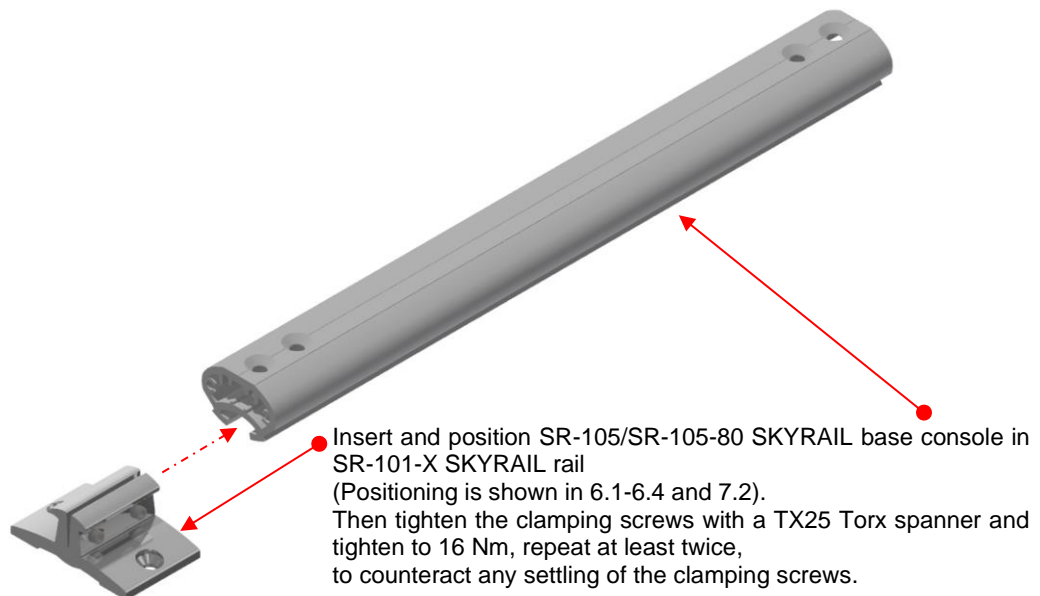

Fig. 1 Mounting the SR-105 base console
7. To assemble the individual parts use Fig.1 - Fig. 6 from chapter 5.